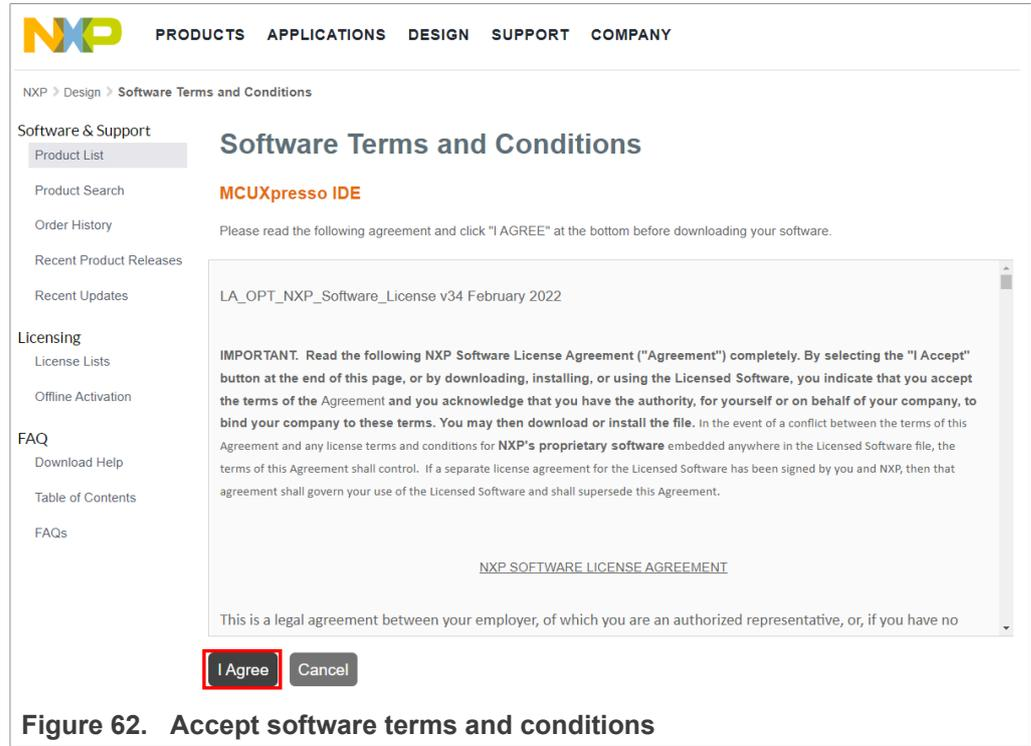

Figure 62. Accept software terms and conditions
- Accept software terms and conditions as shown in Figure 62: